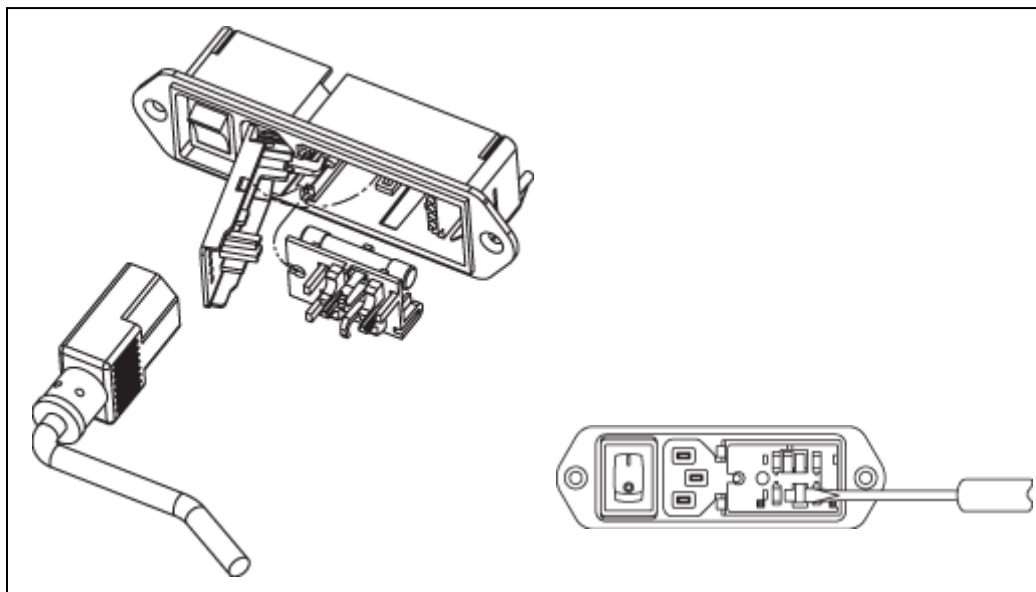

Figure 2-5: Remove Fuse Holder
5. Once lifted, the door will pivot on its hinges and expose the fuse holder and voltage selection card (see Figure 2-5).
6. Pull the fuse holder straight out of the power entry module (see Figure 2-5). Note: when the fuse holder is installed in the single fuse position, use a screwdriver as shown to gently pry it out; when the fuse holder is installed in the dual fuse position, it will normally release as soon as the door is opened.